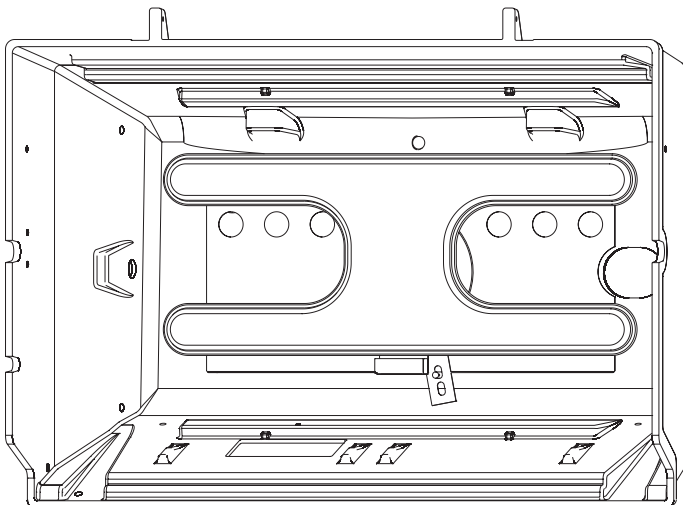

Figure 13
4. Raise the unsecured end of the burner bracket and slip it over the 1/4-20 x 1 1/2 Phillips Truss Head Screw as shown in Figure 13. The screw will fit into the hole on the burner bracket.